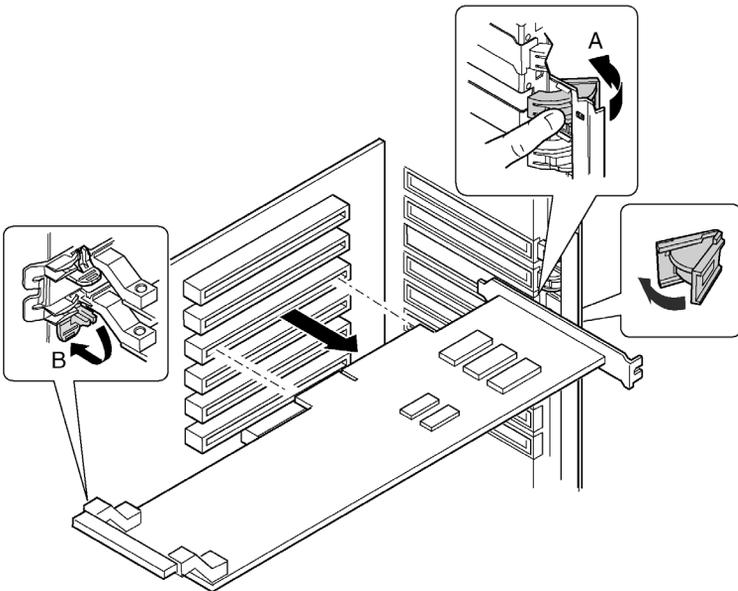

Figure 37 - Removing a hot-plug PCI add-in board
- 4 Release the latches on the front and rear retention mechanisms (Figure 37, A and B).